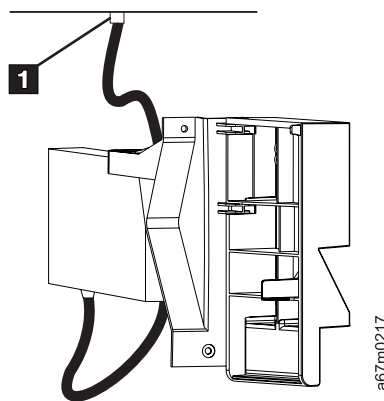

Figure 94. Routing the Excess Bar Code Cable Loop
- 6. Before sliding the assembly back into the library, route the excess cable using an "S" loop behind the bar code scanner as shown in Figure 94. This step is very important because it prevents the excess cable loop from sliding along the right edge of the chassis into the path of the picker mechanism.